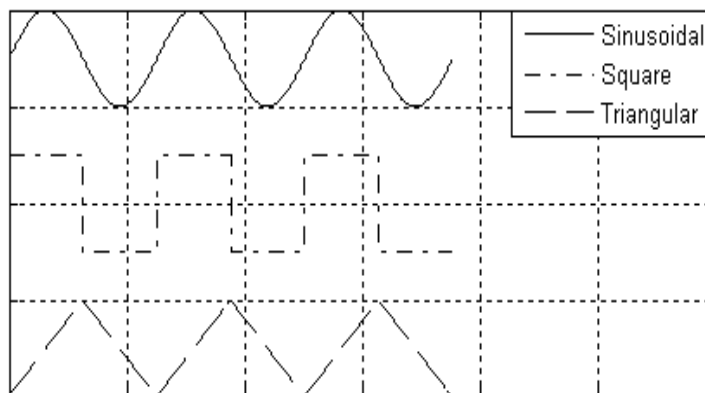

Figure-1: The Sinusoidal, Square and Triangular Waveforms
1. **Function or wave shape-** All function generators can generate three basic types of waveforms i-e Sinusoidal, Triangular and Rectangular. They can also produce composite waveforms which are combinations of any two or all the three waveforms. This can be done using the waveform shape select control. Figure-1 shows the basic waveshapes that can be generated by a function generator.